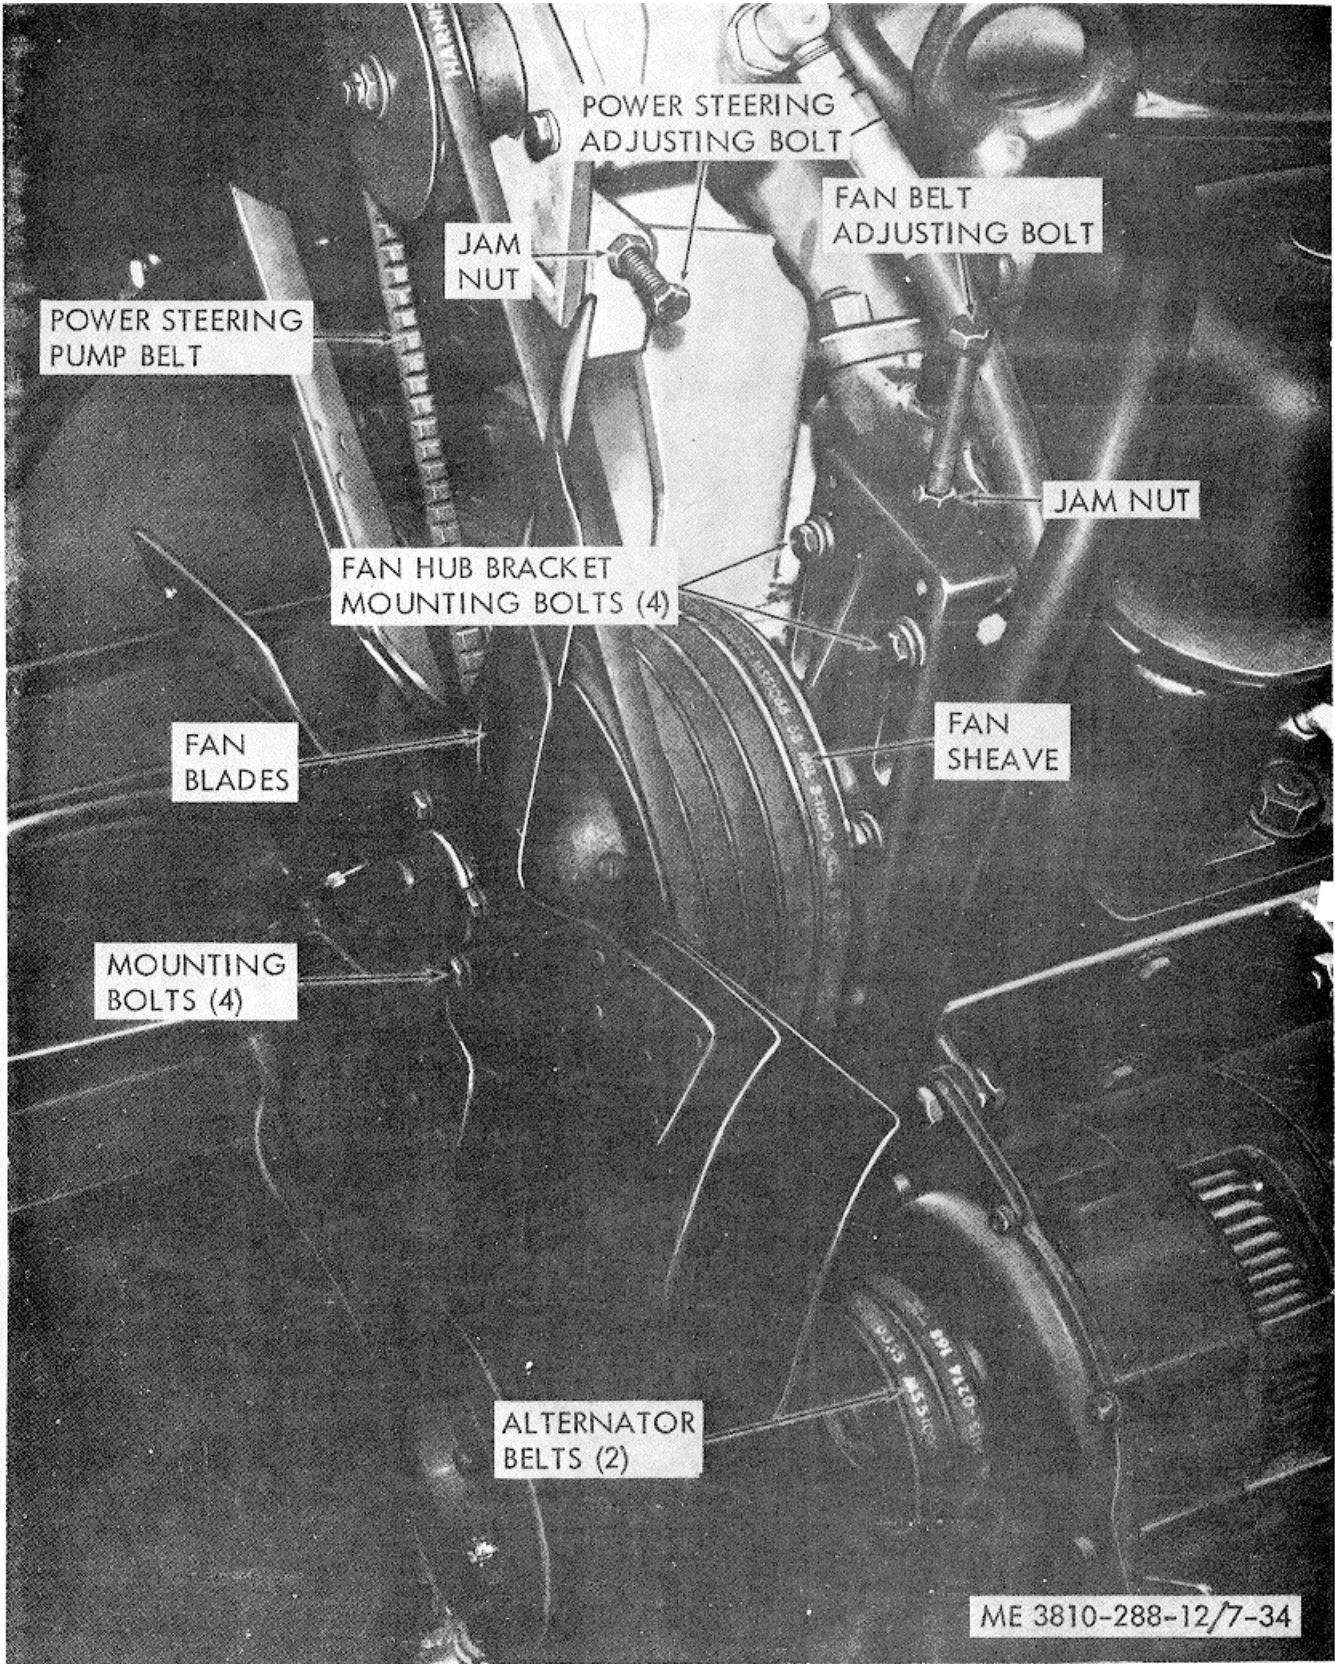

Figure 7-34. Power steering pump and belt, removal, adjustment, and installation.
- (f) If the fan sheave (fig. 7-34) is to be removed, it will be necessary to remove the radiator as instructed in paragraph 7-43b. Then proceed as follows:
- (4) *Belt tension adjustment.* Leave the fan hub bracket mounting bolts loose (fig. 7-34). Loosen the jam nut and tighten the fan belt adjusting bolt until the fan belts have a maximum of about 1/ inch midspan slack at the longest span. Tighten the fan hub bracket mounting bolts so that the correct belt tension will be maintained. Tighten the jam nut.
- (b) Refer to figure 7-34, loosen the jam nut and back off on the power steering adjusting bolt to relieve power steering pump belt tension. Lift the power steering belt off the belt sheave.
- (2) Installation. Install the power steering pump-reservoir assembly as shown in figures 7-34 and 7-35. When filling the reservoir with clean fluid, one man must pour the fluid into the reservoir while another man installs the cap nut (figure 7-33). In this way, any air trapped in the line will be eliminated. This system can be bled of air simply by turning the steering wheel back and forth a few times, but the above method will eliminate the possibility of much air being trapped in the system.
- (3) Belt tension adjustment. Refer to figure 7-34, loosen the jam nut, tighten the adjusting bolt, and retighten the jam nut when belt tension will allow a maximum of 1/ inch midspan deflection in the power steering pump belt.